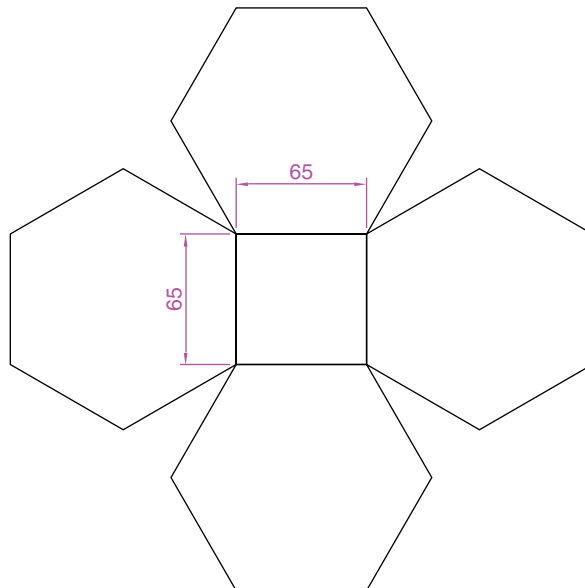

Fig. 3.37 Exercise 6
6. Fig. 3.37 shows a rectangle in the form of a square with hexagons along each edge. Using the **Dimensions** prompt of the **Rectangle** tool construct the square. Then, using the **Edge** prompt of the **Polygon** tool, add the four hexagons. Use the **Osnap endpoint** to ensure the polygons are in their exact positions.